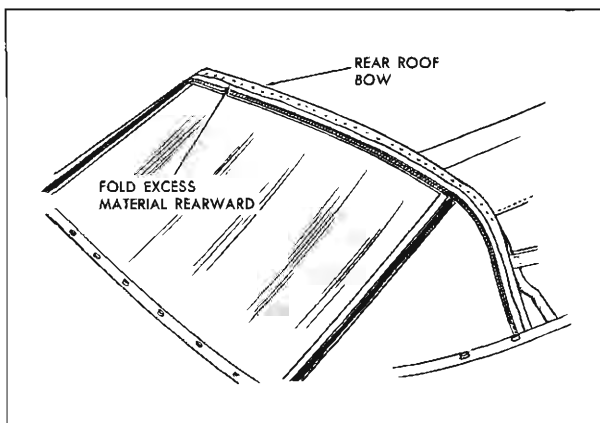

Fig. 21-45 Back Curtain Installation at Rear Roof Bow
17. Working from body center progressively out-board to right and left sides, tack back curtain upper valance to rear bow. Make sure all fullness has been drawn from back curtain assembly. Fold excess back curtain upper valance material rearward and tack to rear bow (Fig. 21-45).